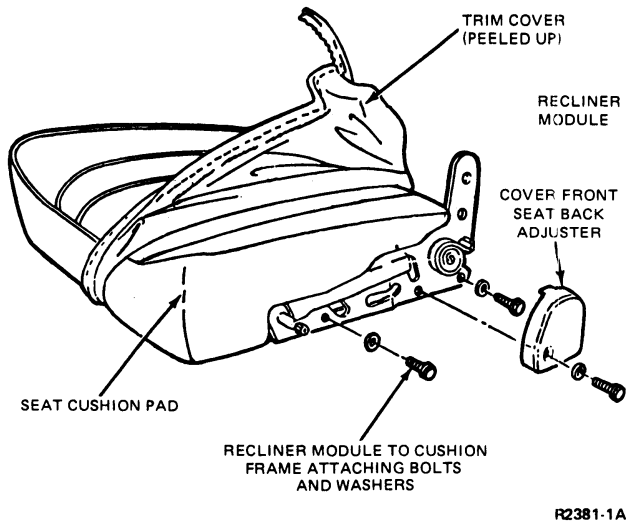

FIG. 12 Recliner Module Removal and Replacement—Captain's Chairs—F-100—F-350 Super Cab and Bronco
11. Install replacement module (Fig. 12).